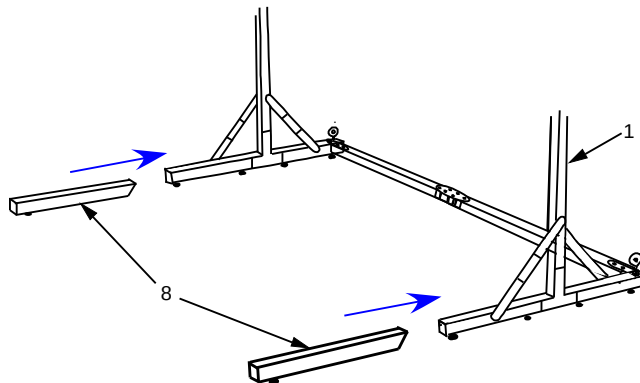

Figure 4. Counterbalance Frame with Extension Legs.
8. Two extension legs (8) are provided and can be attached to the front two feet of the screen frame (1) as shown in Figure 4. Slide extension legs over existing forward legs.